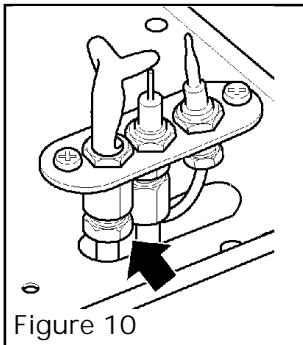

Figure 10
9. Disconnect the pilot from the pilot pipe by undoing the pipe nut. Ease the pipe clear to get access to the pilot injector. See figure 10.